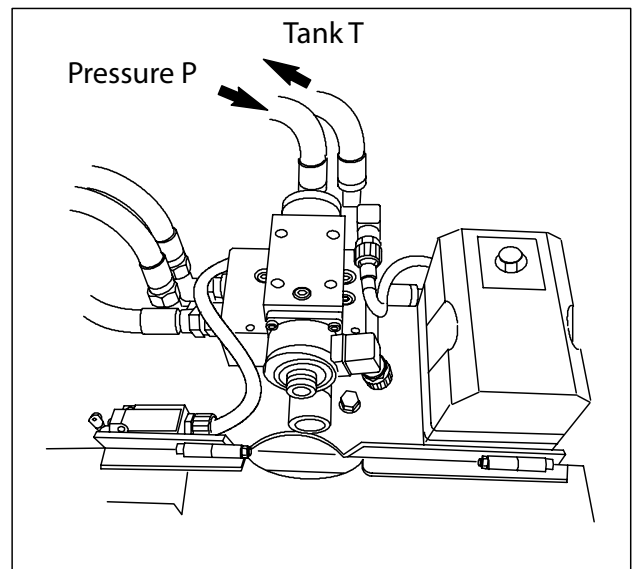

Fig. 8. Connecting the hydraulics
4. Connect the hydraulic hoses. Connect the pressure hose (on valve P) to the hydraulic port of the tractor. The maximum operating pressure is 175 bars. Connect the return hose (T) to the return port of the two-way valve or, even better, directly to the tank. See fig 8.